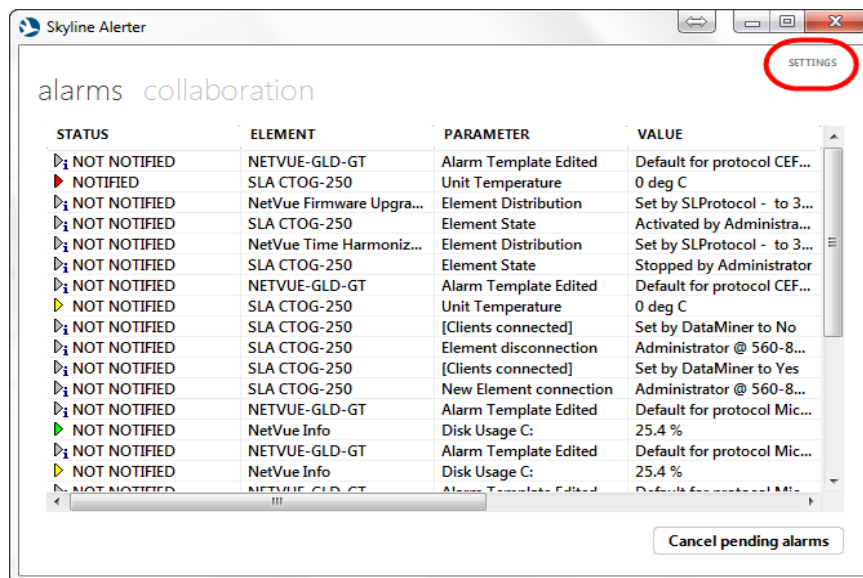

Figure 17-9 Skyline Alerter window | Settings button
1. On the Skyline Alerter main window, click the **Settings** button (see Figure 17-9 Skyline Alerter window | Settings).
1. On the Skyline Alerter main window, click the **Settings** button (see Figure 17-9).
1. On the Skyline Alerter main window, click the **Settings** button. See Figure 17-9 Skyline Alerter window | Settings.